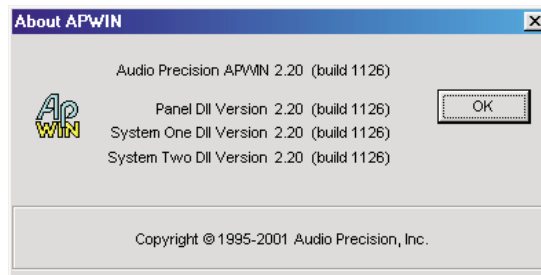

Figure 78. Typical About APWIN screen
- APWIN version number (see Figure 78)